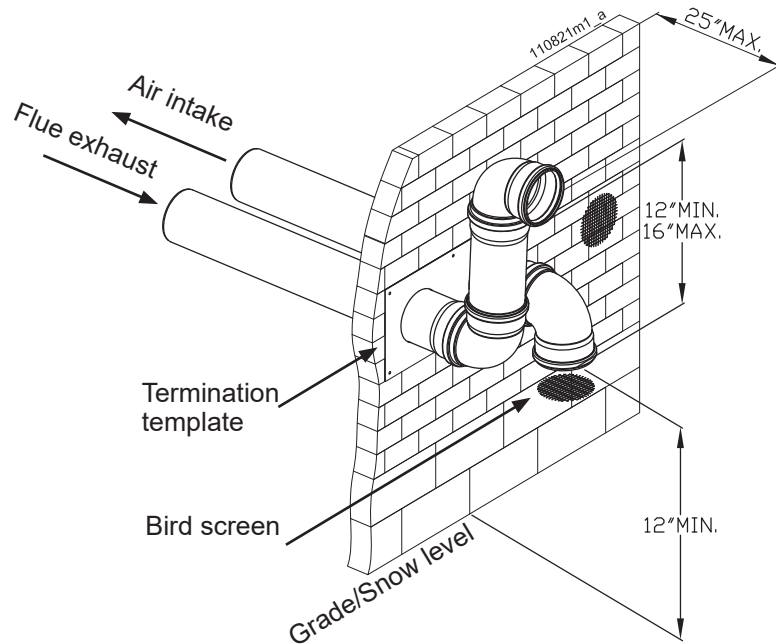

Figure 12-14 Two pipes sidewall termination of air and vent
3. The vent piping must terminate in an elbow pointed outward as shown in Figures 12-14 or 12-15 or in a roof as shown in Figure 12-21.
Do not exceed the maximum lengths of the outside vent piping shown in Figures 12-14, 12-15 or 12-21. Excessive length exposed to the outside could cause freezing of condensate in the vent pipe, resulting in potential heater shutdown.
3. The air piping must terminate in a down-turned elbow as shown in Figures 12-14 and 12-15. This arrangement avoids recirculation of flue products into the combustion air stream.
4. The vent piping must terminate in an elbow pointed outward or away from the air inlet, as shown in Figures 12-14 and 12-15.
! WARNING!!! Do not exceed the maximum lengths of the outside vent piping shown in Figures 12-14 and 12-15. Excessive length exposed to the outside could cause freezing of condensate in the vent pipe, resulting in potential heater shutdown.
5. Maintain clearances as shown in Figures 12-14 and 12-15. Also maintain the following:
1. The air termination coupling must be oriented at least 12 inches above grade or snow line as shown in Figures 12-14 and 12-15.
2. Maintain the required dimensions of the finished termination piping as shown in Figures 12-14 and 12-15.
3. Do not extend exposed vent pipe outside of the building more than what is shown in Figures 12-14 and 12-15. Condensate could freeze and block vent pipe.